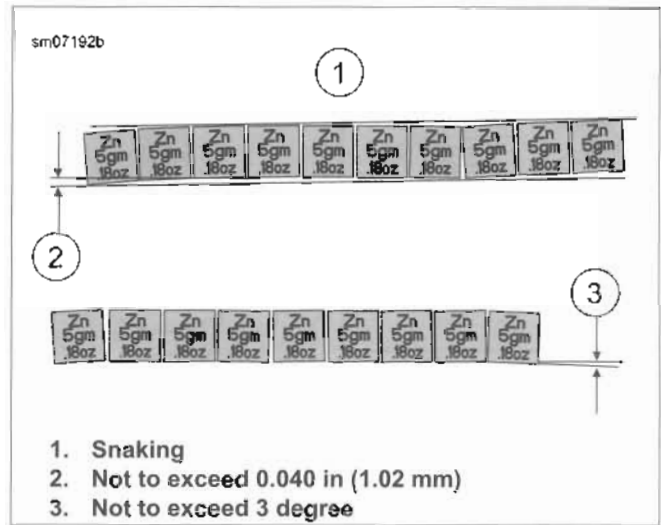

Figure 2-35. Weight Segment Alignment
See Figure 2-35. When installing wheel weights, consider cosmetics. Keep snaking (1) within 0.040 in (1.02 mm) of straight. Also keep the angle alignment of individual segments (3) within three degrees.